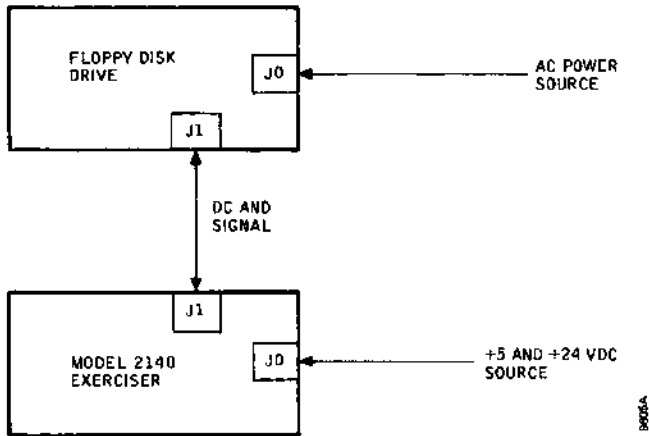

Figure 4-2. Exerciser and Disk Drive Setup
4. Verify that the exerciser is connected to the dc source (see Figure 4-2).